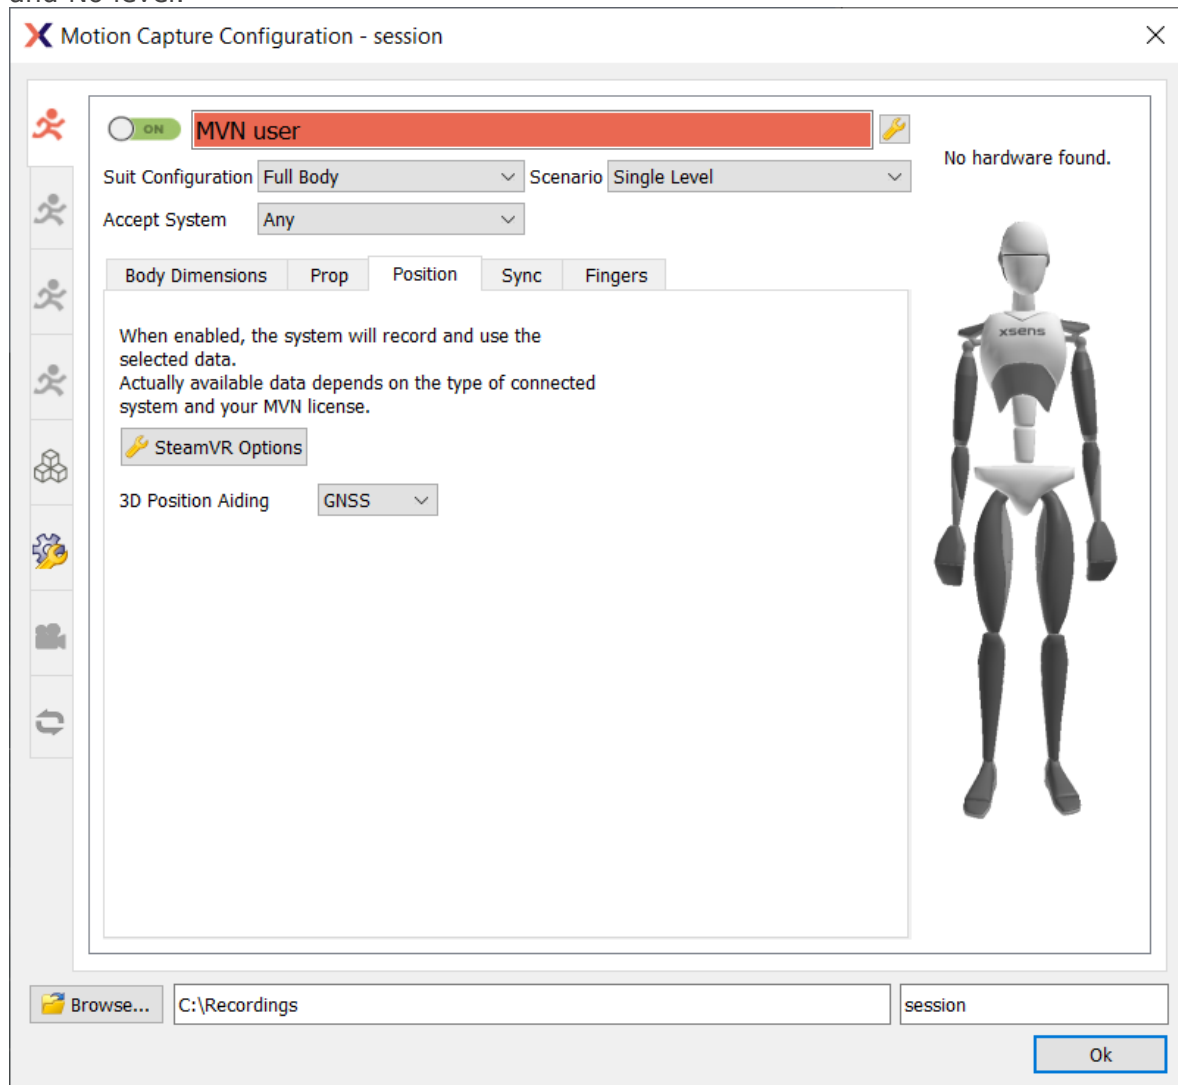

Figure 70: Position tab in the Motion Capture configuration
When configuring a new session, open up the Position tab (Figure 70) and select the GNSS option. When this is enabled, the system will record and use the data collected from the GNSS antenna. The scenario can be set to 3 scenario's: Single level, Multi level and No level.
3. Follow the normal procedure in setting up a system. To enable positional aiding go to the Position tab (Figure 70)